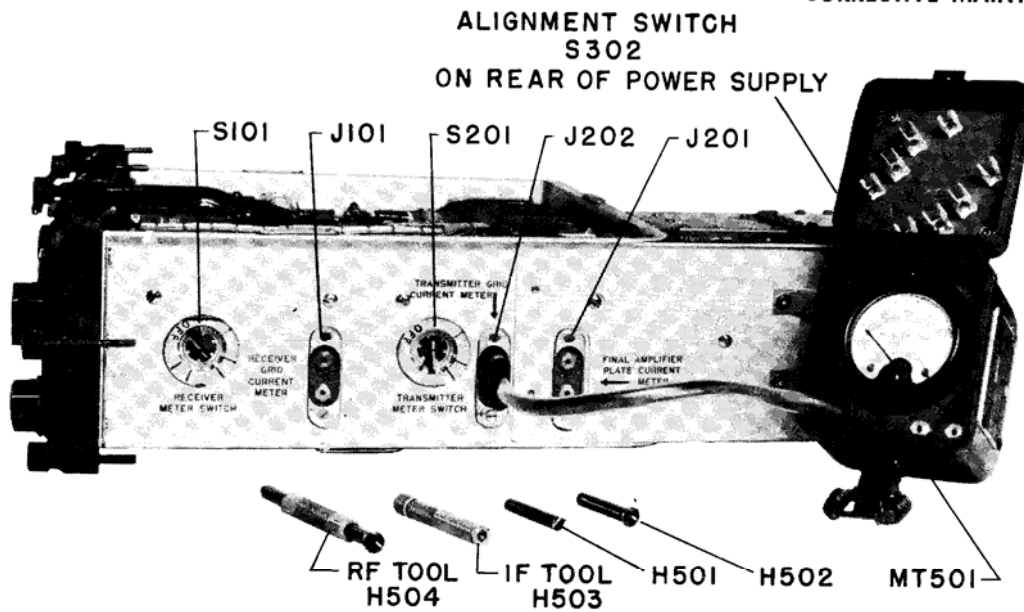

Figure 6-4. Test Meter CKB-60155-A Connected for Alignment
Test Meter CKB-60155-A (MT501), complete with alignment tools as illustrated in figure 6-4, is supplied specifically for channel alignment (as well as for other tests by maintenance personnel). The positions of the transmitter and receiver meter switches S101 and S201, shown in the figure, are indicated by colored lines, each line corresponding respectively to the color on the turret section being adjusted.
- Step 2. Plug the Test Meter (MT501) into the TRANSMITTER GRID CURRENT METER receptacle (J202), the red lead side to the positive (+) side of the receptacle. See figure 6-4.
- Step 4. (Operation B.) Turn S201 to yellow and adjust the "in contact" coil on the yellow turret section to "resonance". See paragraph 4.a.(1) and (2) below. Use alignment tool H504.
- Step 2. Plug the Test Meter (MT501) into the RECEIVER GRID CURRENT METER receptacle (J101), the red lead side to the positive (+) side of the receptacle. See figure 6-4.